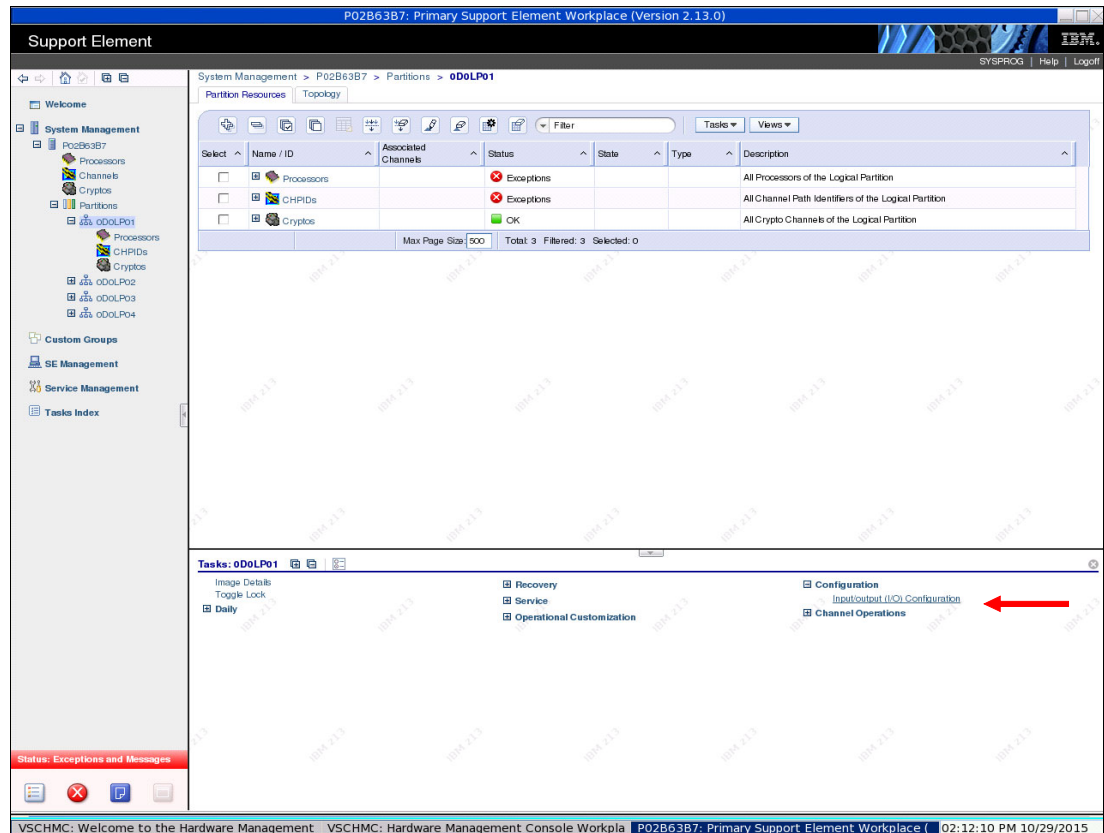

Figure 5-15 Input/Output Configuration selection
- With **0D0LP01** partition selected, we select **Configuration** and then **Input/Output (I/O) Configuration** in the Tasks tab in the lower half of the window, as shown in Figure 5-15.